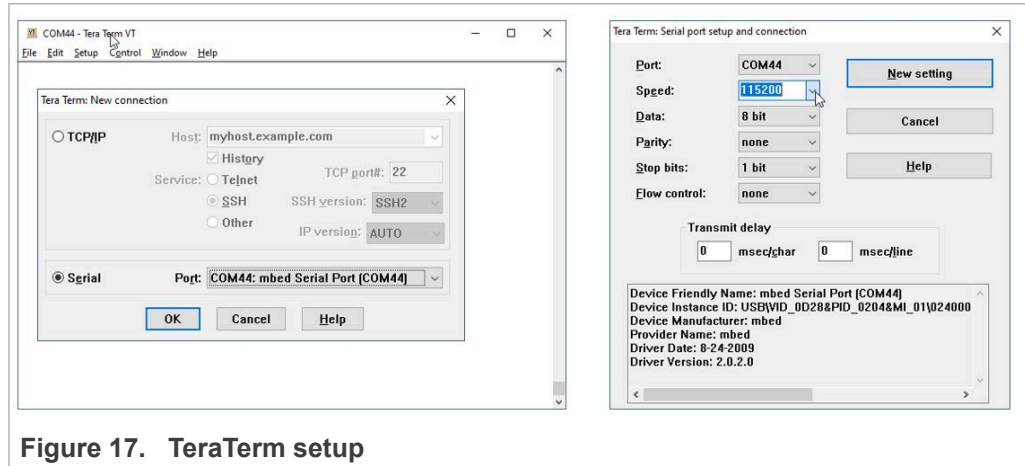

Figure 17. TeraTerm setup
2. Launch and configure the TeraTerm application as shown in Figure 17: